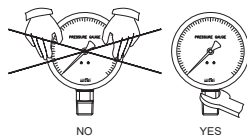

Figure 6
- 7) Do not hold the casing to turn. Always use specified wrench. (Figure 6)